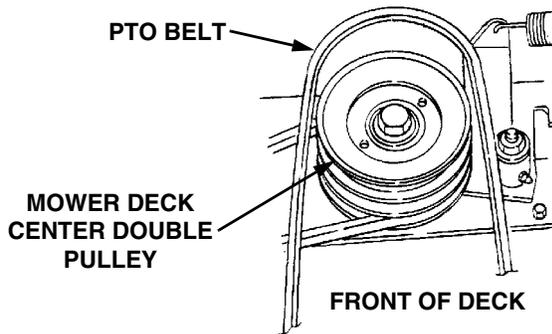
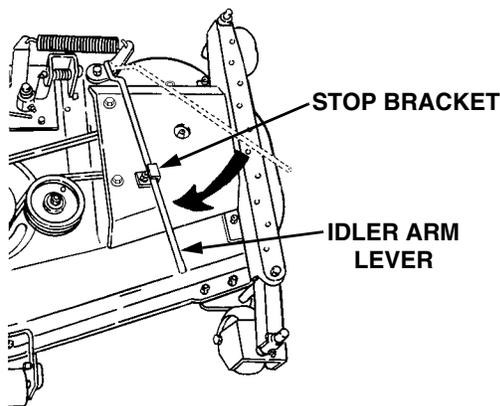

Figure 42
Figure 43
- Remove the rearward end of the PTO belt from the upper pulley of the deck center double-pulley (Refer to Figure 42). Engage the deck idler arm lever back into its stop bracket (See Figure 43).